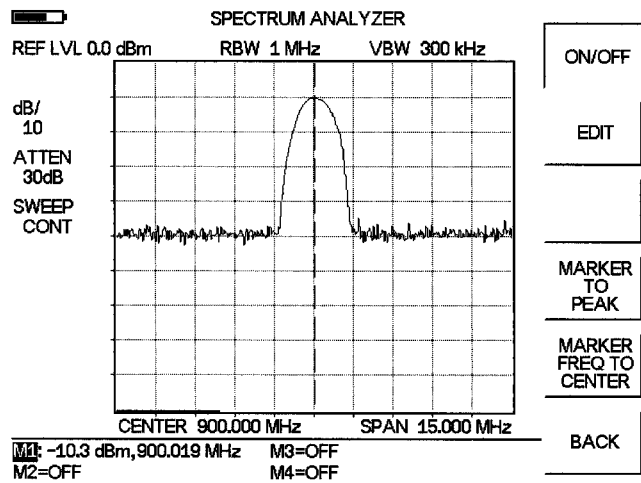

Figure 4-13. Activated normal marker
**Step 14.** Press the **MARKER TO PEAK** soft key to set marker M1 to the highest point on the trace (Figure 4-13).